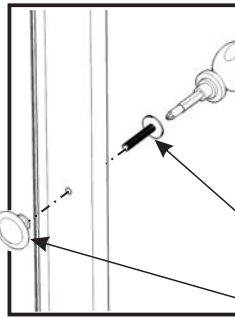

Figure 6
Assemble Pull Handles to Doors (H), (I) and Drawer with Machine Screws. (see Figure 6)